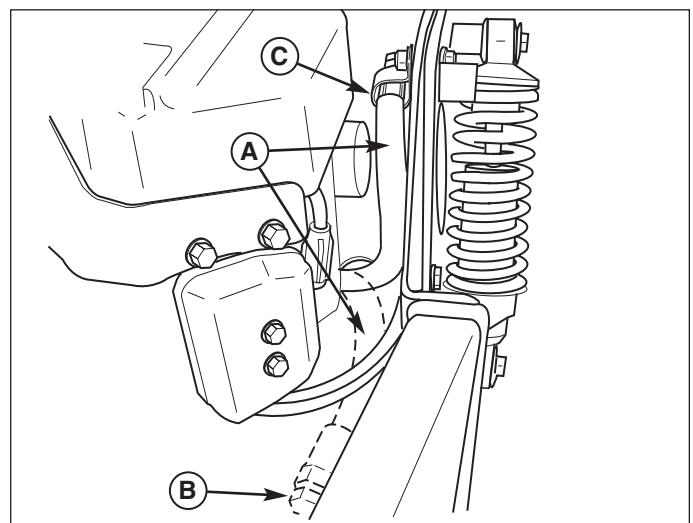

Figure 12. Engine Oil Drain
2. Remove the oil drain hose (A, Figure 12) from the cable clamp (C) on the right-hand side of the frame and route the hose towards the rear of the machine as shown in Figure 12.
3. Place a small pan under the oil drain hose to catch the oil. Using the appropriate tools, remove the cap (B, Figure 12) from the oil drain hose (A) and drain the engine oil.